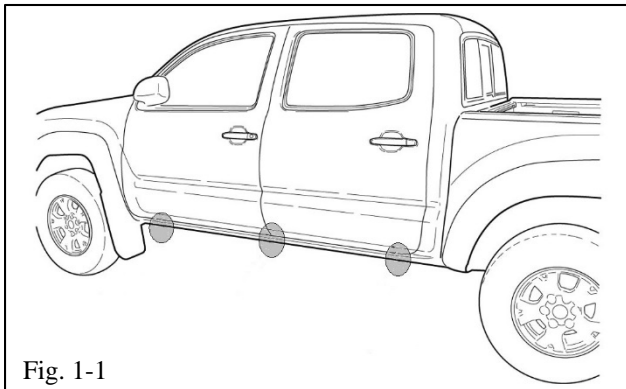
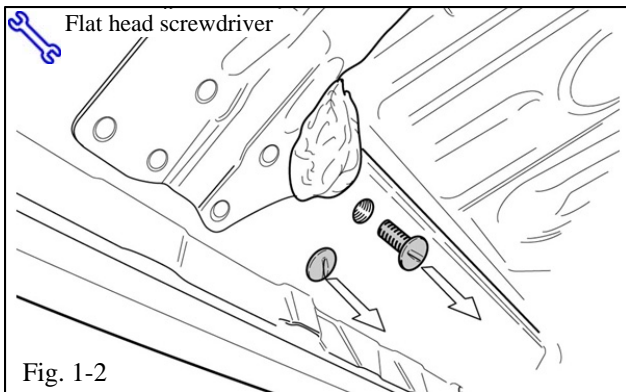

Fig. 1-1
Fig. 1-2
- (a) Remove the six (6) (for C & D-cab) or the four (4) (for B Cab) plastic screws located in the side step mounting holes under the vehicle and discard (Fig. 1-1 & Fig. 1-2).